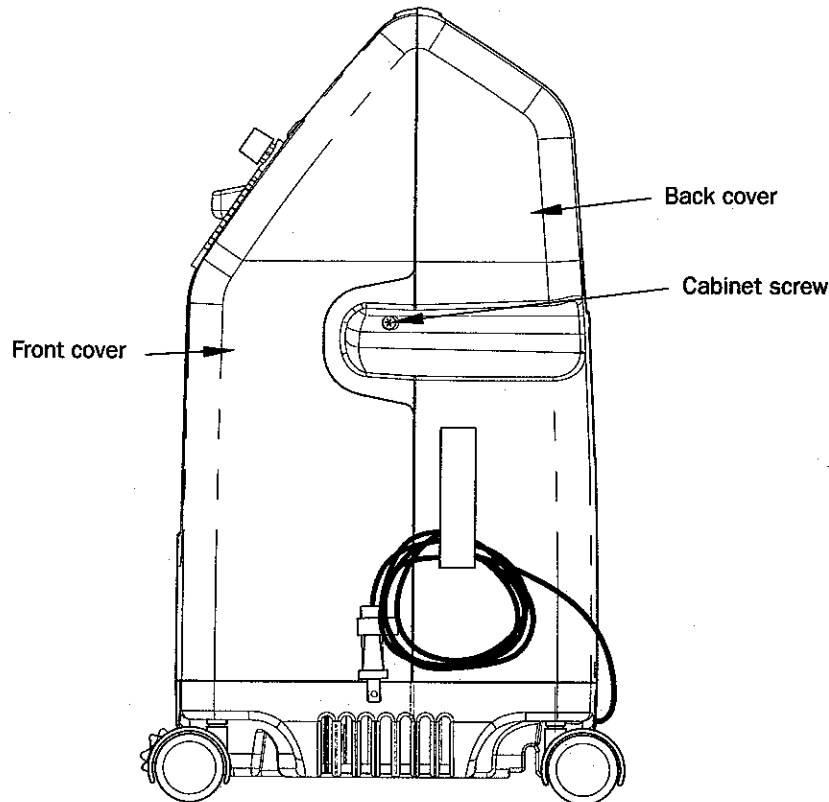

Figure 17
2. Using a screwdriver, remove the six screws that hold the back cabinet to the internal structure and the bib (Figures 17 and 18).